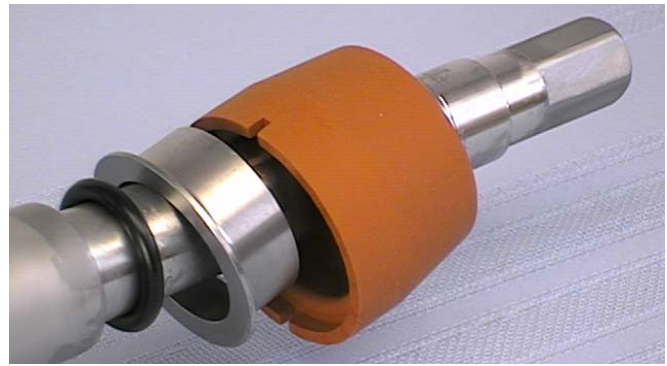

Figure 15. Rear Seal Removal
5. Wipe spline lubricant off hex end of auger with a paper towel. Remove the rear seal. Figure 15.